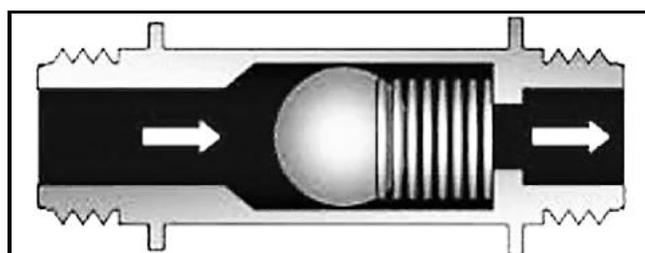

FIGURE 11.3
- 11.3 Identify the type of hydraulic valve in FIGURE 11.3 below.